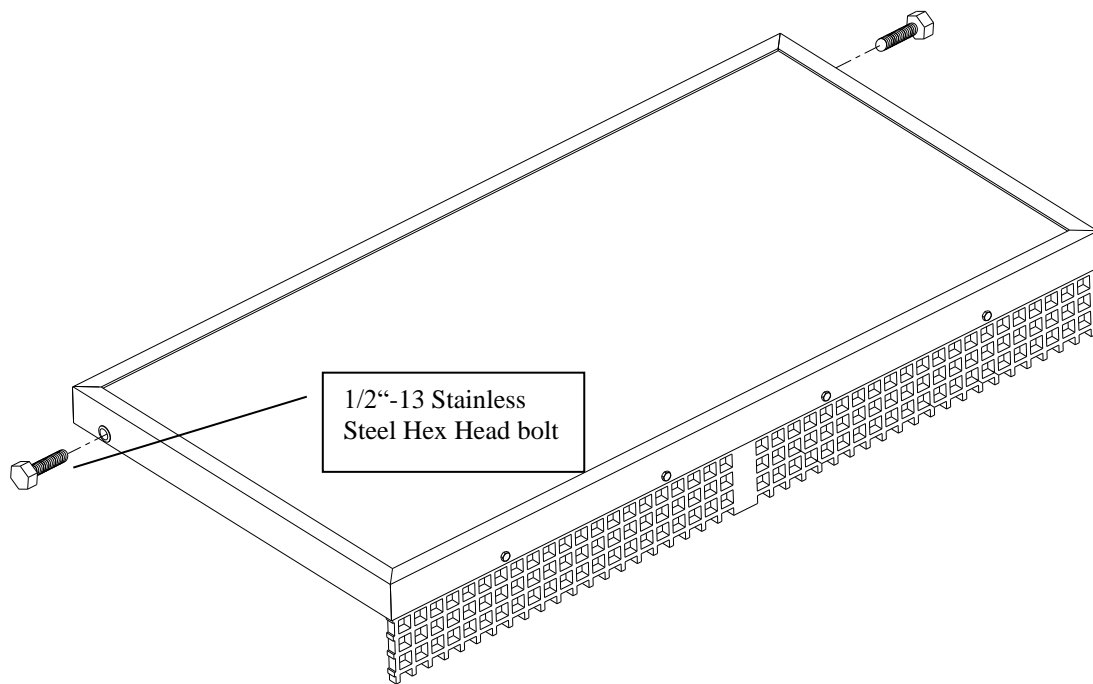

Figure 15
4. Insert (2) 1/2"-13 x 1 3/4" bolts supplied into the threaded plugs as shown in Figure 15.